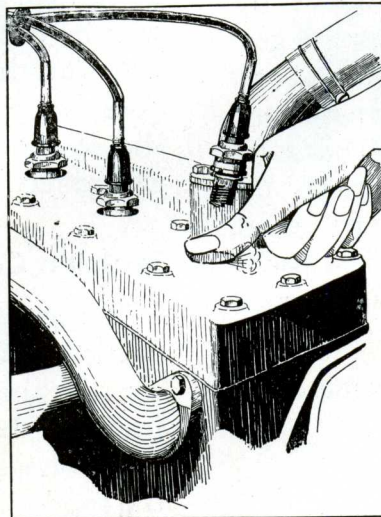

Fig. 86. Determining Dead Center.
1. Remove spark plug from No. 1 cylinder, as shown in Fig. 86, and crank engine